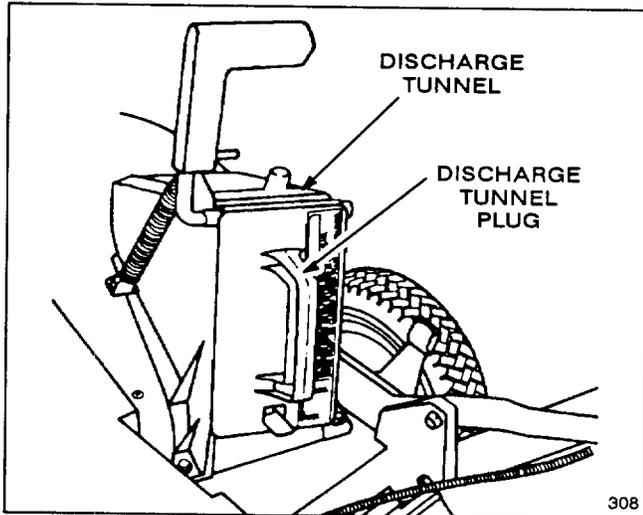

Figure 25
1. **Rear Bagging Kit (Model 59174 for self-propelled models, Model 59179 for hand push models)**—Install discharge tunnel and rear mounting grass bag to convert Recycler® mower to a rear bagging mower (Fig. 25). Includes discharge tunnel plug.